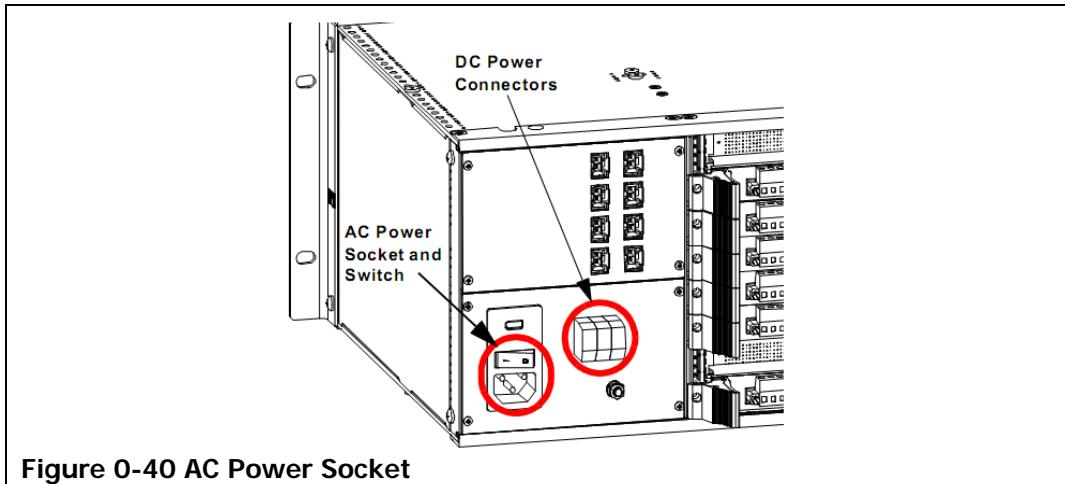

Figure 0-40 AC Power Socket
2. Connect the DC power cord(s) from the DC power supply to the indoor unit chassis' DC Power Connectors, shown in Figure 0-40 AC Power Socket.
4. Turn on the indoor unit chassis power switch, shown in the above figure. When the base station is first powered up, it takes roughly four (4) minutes for the sector card to boot up. You cannot use the sector card until it has booted up completely.